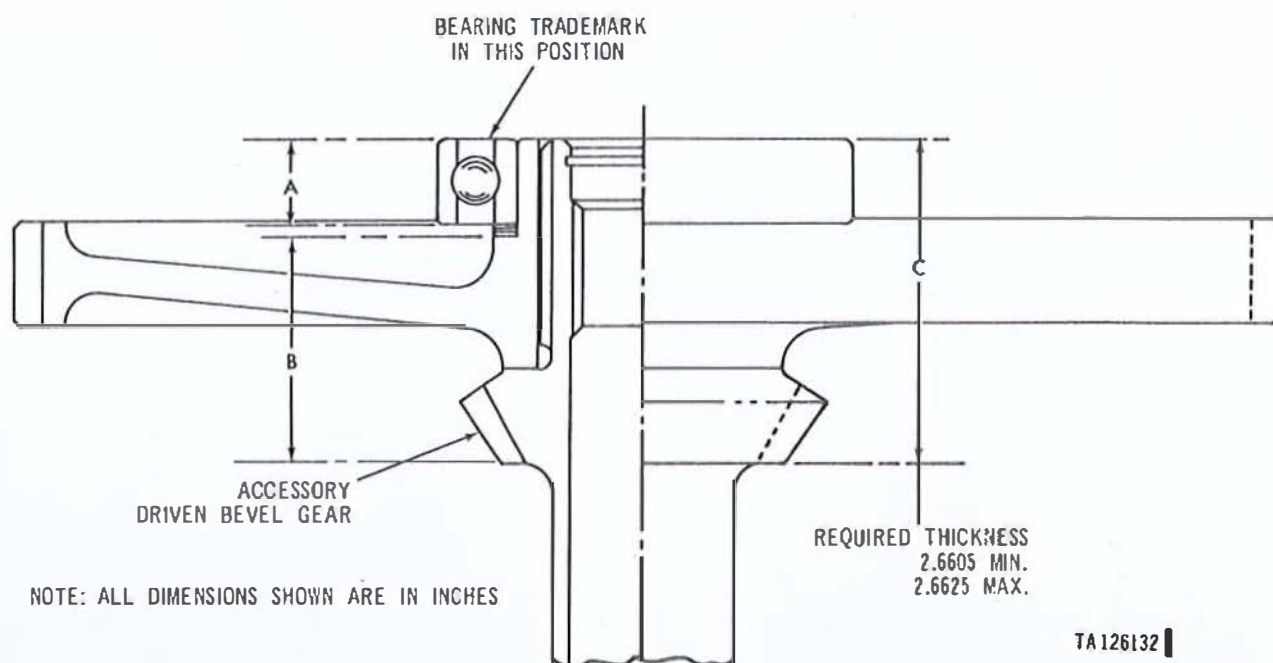

Figure 3-239. Determining shim thickness for accessory drive bevel gearshaft bearing.
(2) Measure the total thickness (A, fig. 3-239) of ball bearing inner race to face of outer race, with end play removed. Measure the total thickness (B) from inner face of bevel gear to inner face of bearing journal. Add thickness of ball bearing race (A) and gearshaft measurement (B) and subtract from 2.6605 to 2.6625-inch. Add or remove 0.002-inch shim laminations from shim pack, Part No. 8761041, until required dimension (C) is obtained.
(3) Position shim (fig. 3-240) of predetermined thickness (fig. 3-239) on bearing hub of accessory drive gearshaft. Position accessory driven gearshaft ball bearing on hub, with bearing trade mark facing away from gearshaft (fig. 3-239) and press bearing on gearshaft.